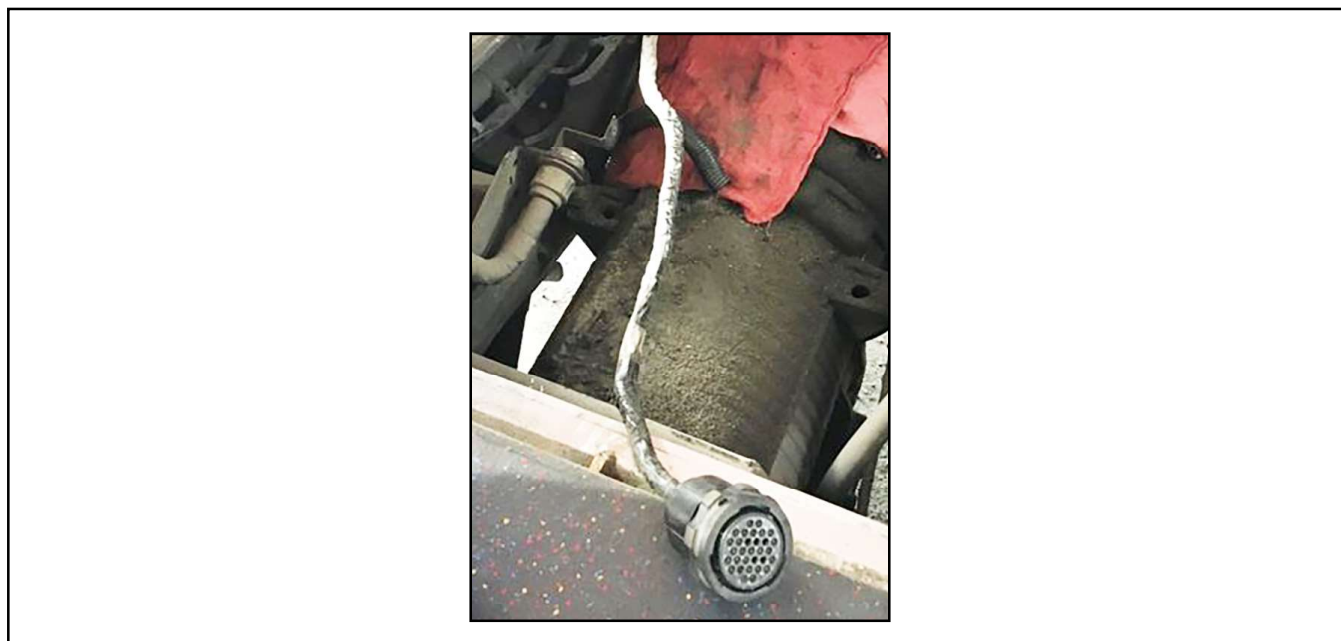

Figure 3 - Convoluted Tubing Removed
- 1.6. Remove the convoluted tubing (4 feet total) starting from the connector to the double p-clamp (see Figure 3).